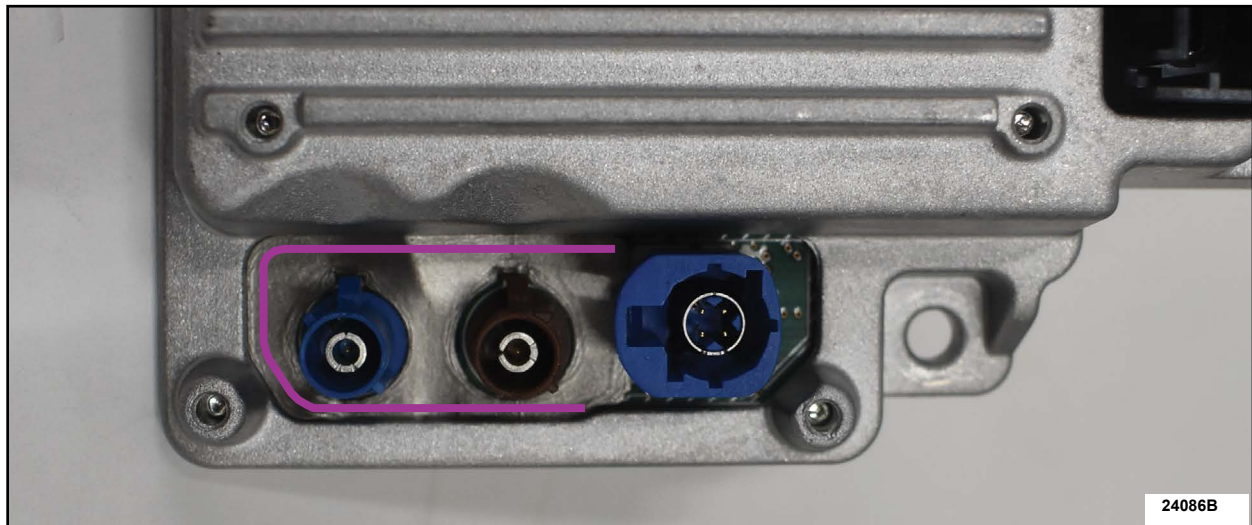

FIGURE 2
3. Using a plastic flat-tipped tool, press along the three edges to ensure the absorber is fully seated flat on the APIM. See Figure 2.